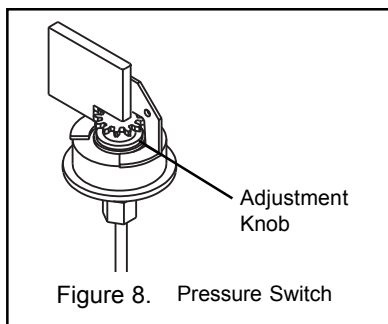

Figure 8. Pressure Switch
5. Turn the adjustment knob clockwise or away from the micro-switch, until the heater shuts down; see Figure 8.